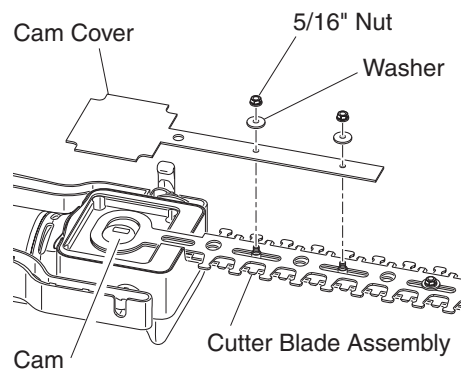

Figure 18 - Removing Cam Cover
3. Remove the two 5/16" nuts closest to the power head and lift off cam cover (see Figure 18). These parts will be included with the new cutter blade and will not be needed.
4. Rotate cam so that cam and cutter blade assembly slot are aligned (see Figure 18).